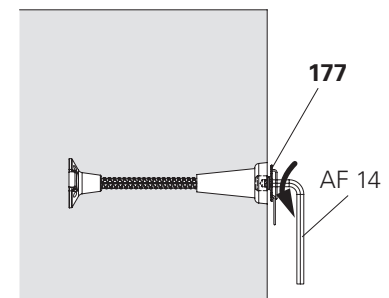

Fig. A3.28
4. Bend wire nails $\text{Ø} 3 \times 80$ (178) over in order to protect hands.
5. Remove Anchor Positioning Stud M30 (177) using Allen key AF 14.
- (Fig. A3.28)